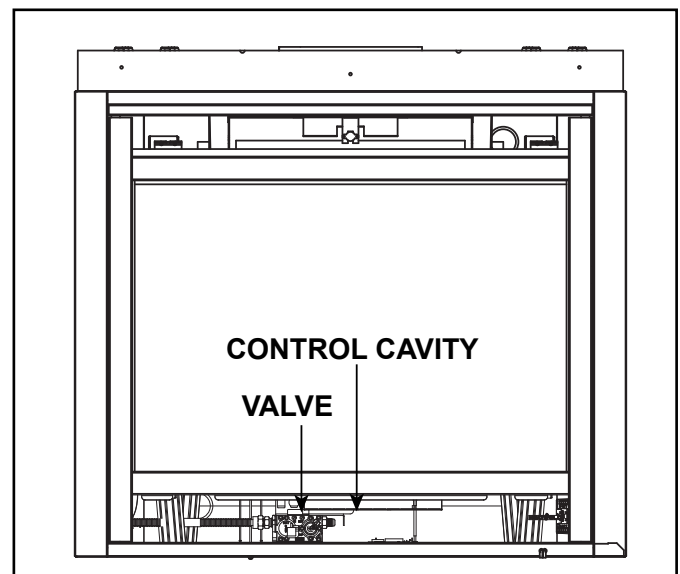

Figure 3.5. Control Cavity
The SL-7BV model has a variable burn rate which is controlled by the HI/LO knob on the gas valve. Therefore the flame height is adjustable. The HI/LO knob is shown in Figure 3.5. It is located in the control cavity of the appliance. The HI/LO knob may be adjusted as desired by turning counterclockwise to the HIGH position and by turning clockwise to the LO position.
The IntelliFire intermittent pilot ignition system comes with a battery backup system that enables the system to operate in a power outage. A factory-installed battery pack is located in the control cavity of the appliance. See Figure 3.5. Batteries should not be placed in the battery tray while using electrical power to operate the fireplace. Remove batteries from battery tray when power has been restored.
1. Access the control cavity of the appliance. See Figure 3.5 for location. The decorative front or door may need to be removed.
2. Locate the battery tray and insert two D cell batteries. Battery polarity must be correct or module damage will occur. See Figure 3.5. A complete wiring diagram is included in the Electrical section of the appliance Installation Manual.